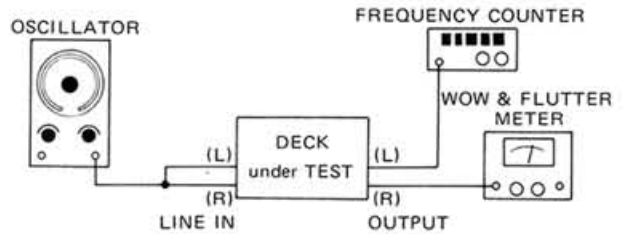

Fig. 2-24
1. Connect the test equipment to the deck as shown in Fig. 2-24.